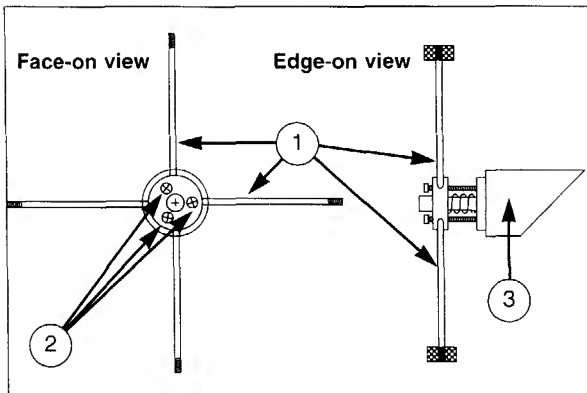
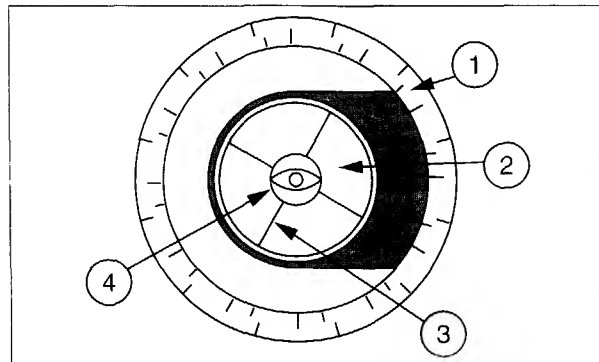
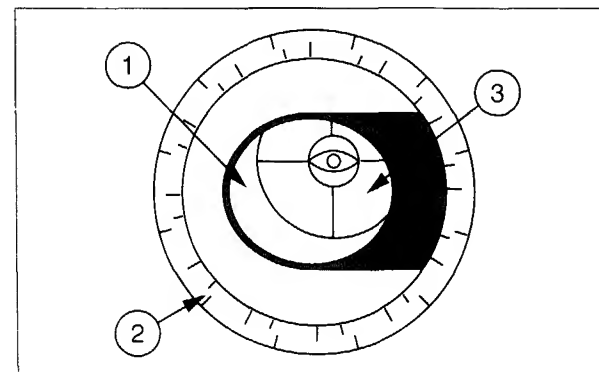
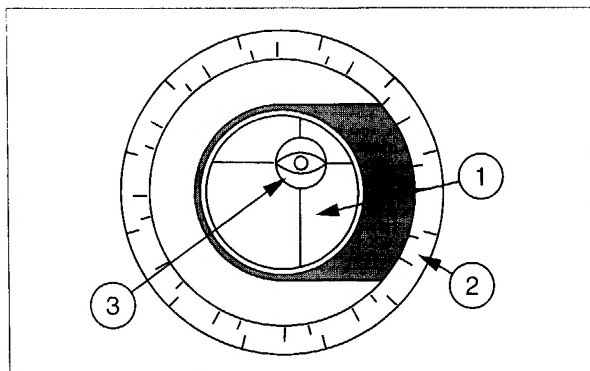

Fig. 13: Secondary Mirror Assembly. (1) Spider Vanes; (2) Tilt screws; (3) Secondary Mirror Holder.
Fig. 14: Correct Collimation. (1) Round Edge of Focuser Drawtube; (2) Secondary Mirror; (3) Spider vanes; (4) Eye.
Fig. 16: Secondary Mirror Misalignment. (1) Secondary Mirror; (2) Round Edge of Focuser Drawtube; (3) Reflection of Primary Mirror.
Fig. 17: Primary Mirror Misalignment. (1) Secondary Mirror; (2) Round Edge of Focuser Drawtube; (3) Eye.
To inspect the view of the mirror collimation, remove the eyepiece and look down the focuser drawtube. The round edge of the focuser drawtube (1, Fig. 14) will frame the reflections of the primary mirror with the secondary mirror (2, Fig. 1), the spider vanes (3), Fig. 14, and your eye (4, Fig. 14). Properly aligned, all of these reflections will appear concentric (*i.e.* centered) as illustrated in Fig. 14. Any deviation from the concentric reflections will require adjustments to the secondary mirror assembly (Fig. 13), and/or the primary mirror cell.
Looking down the open end of the telescope tube, check to see if the secondary mirror system is centered in the optical tube. If the assembly is off-center, loosen one of the spider vane adjustment/lock knobs while unscrewing the opposite knob. Only make adjustments to 2 knobs at a time until the secondary mirror is centered in the drawtube. When the spider vane is correctly positioned, the view through the drawtube will look like Fig. 16. (Note that the secondary mirror is misaligned.)
If the secondary mirror (1), Fig. 16, is centered in the drawtube (2), Fig. 16, but the primary mirror is only partially visible in the reflection (3), Fig. 16, the 3 hex screws located on the secondary mirror assembly (2), Fig. 13, must be unthreaded slightly to refine the tilt-angle of the secondary mirror until the entire primary mirror can be seen centered within the secondary mirror reflection. When the secondary mirror is correctly aligned, it will look like Fig. 17. (Note that the primary mirror is misaligned.)
If the secondary mirror and the reflection of the primary mirror (1), Fig. 17, appear centered within the drawtube (2), Fig. 17, but the reflection of your eye (3), Fig. 17, appears off-center, you will need to adjust one or more of the three primary mirror hex screws of the primary mirror cell. These primary hex screws are located behind the primary mirror, at the lower end of the main tube. Adjust the primary mirror alignment by slightly turning one hex screw at a time, looking through the focuser after each adjustment to determine if the mirror is moving in the correct direction.
- a. Remove the dust cover. You will see five wires coming off the motor. These wires all lead to one connector (8, Fig. 17) that plugs into the top corner of the circuit board, next to the fuse (7, Fig. 17). Unplug this connector (the motor plug) before you do any work on the motor.
- b. Tighten each of the three clutch pressure plate screws (12, Fig. 17) slightly until there is sufficient
Fig. 17: The Motor Drive System. (1) Clutch pressure plate; (2) Worm gear; (3) Worm block; (4) Dust cover; (5) Worm; (6) Circuit board; (7) Slow-blow fuse; (8) Motor plug connector; (9) Red wire; (10) Synchronous motor; (11) Back plate; (12) Clutch adjustment screws.
- c. Plug the connector (8, Fig. 17) back into the top corner of the circuit board, making sure that all 5 pins on the circuit board are covered by the connector. The connector should be oriented so that the wires are leading away from the board, not crossing over the board. Note the location of the red wire (9, Fig. 17). Replace the dust cover.
- b. Loosen the two screws that hold the worm block (3, Fig. 17) to the back plate (11), Fig. 17.
- c. Fit the worm (5, Fig. 17) snugly against the spur gear (2, Fig. 17) with just a small amount of play.